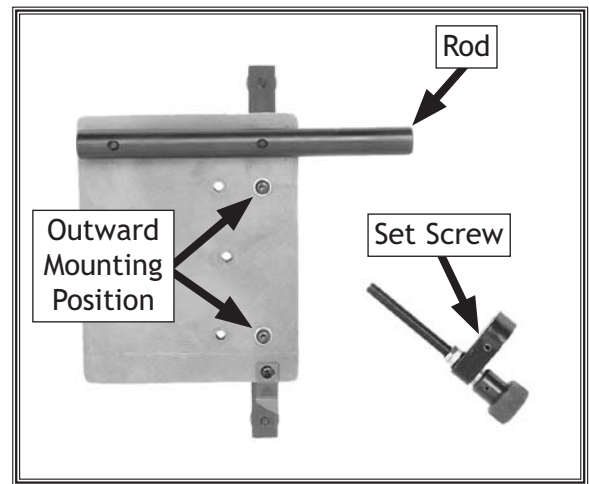

Figure 8. Guide bar mounted in the outward position.
3. Loosen the set screw on the micro-adjust collar, then remove the micro-adjust assembly from the rod, as shown in **Figure 8**.
4. Remove the cap screws and washers securing the guide bar to the base plate, then re-install the bar in the outward mounting position, as shown in **Figure 8**.